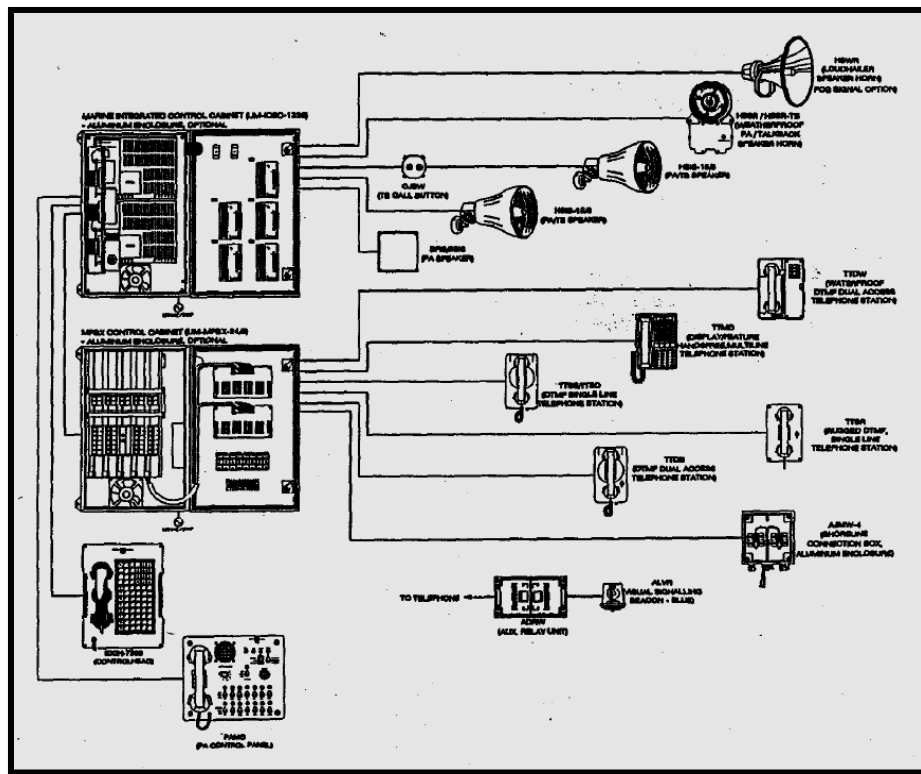

Figure 7-53.— Sample Marine Integrated Communication System Block Diagram.
The Marine Integrated Control Cabinet (1338-ICSC) is a compact and highly reliable yet versatile interior communications control unit that is exclusively used on PC-1 Class Ships. It is designed specifically for use in marine Public Address (PA), Talkback (TB) and Telephone Exchange (MPBX) integrated systems as shown In the Sample System Block Diagram (Figure 7-53). A system can be configured to meet vessel requirements. Some custom design features are available.